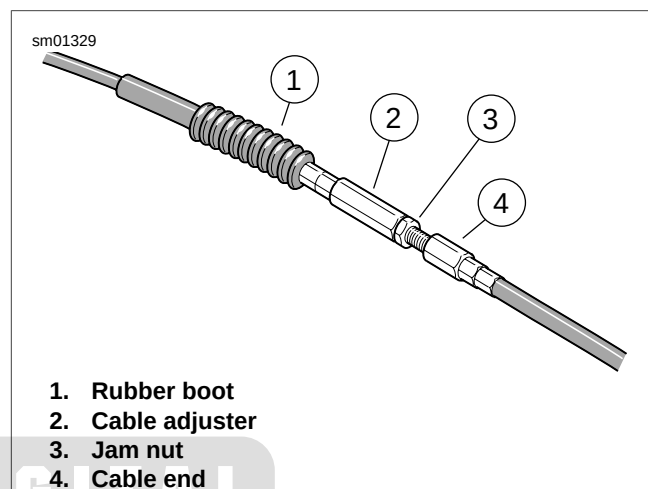
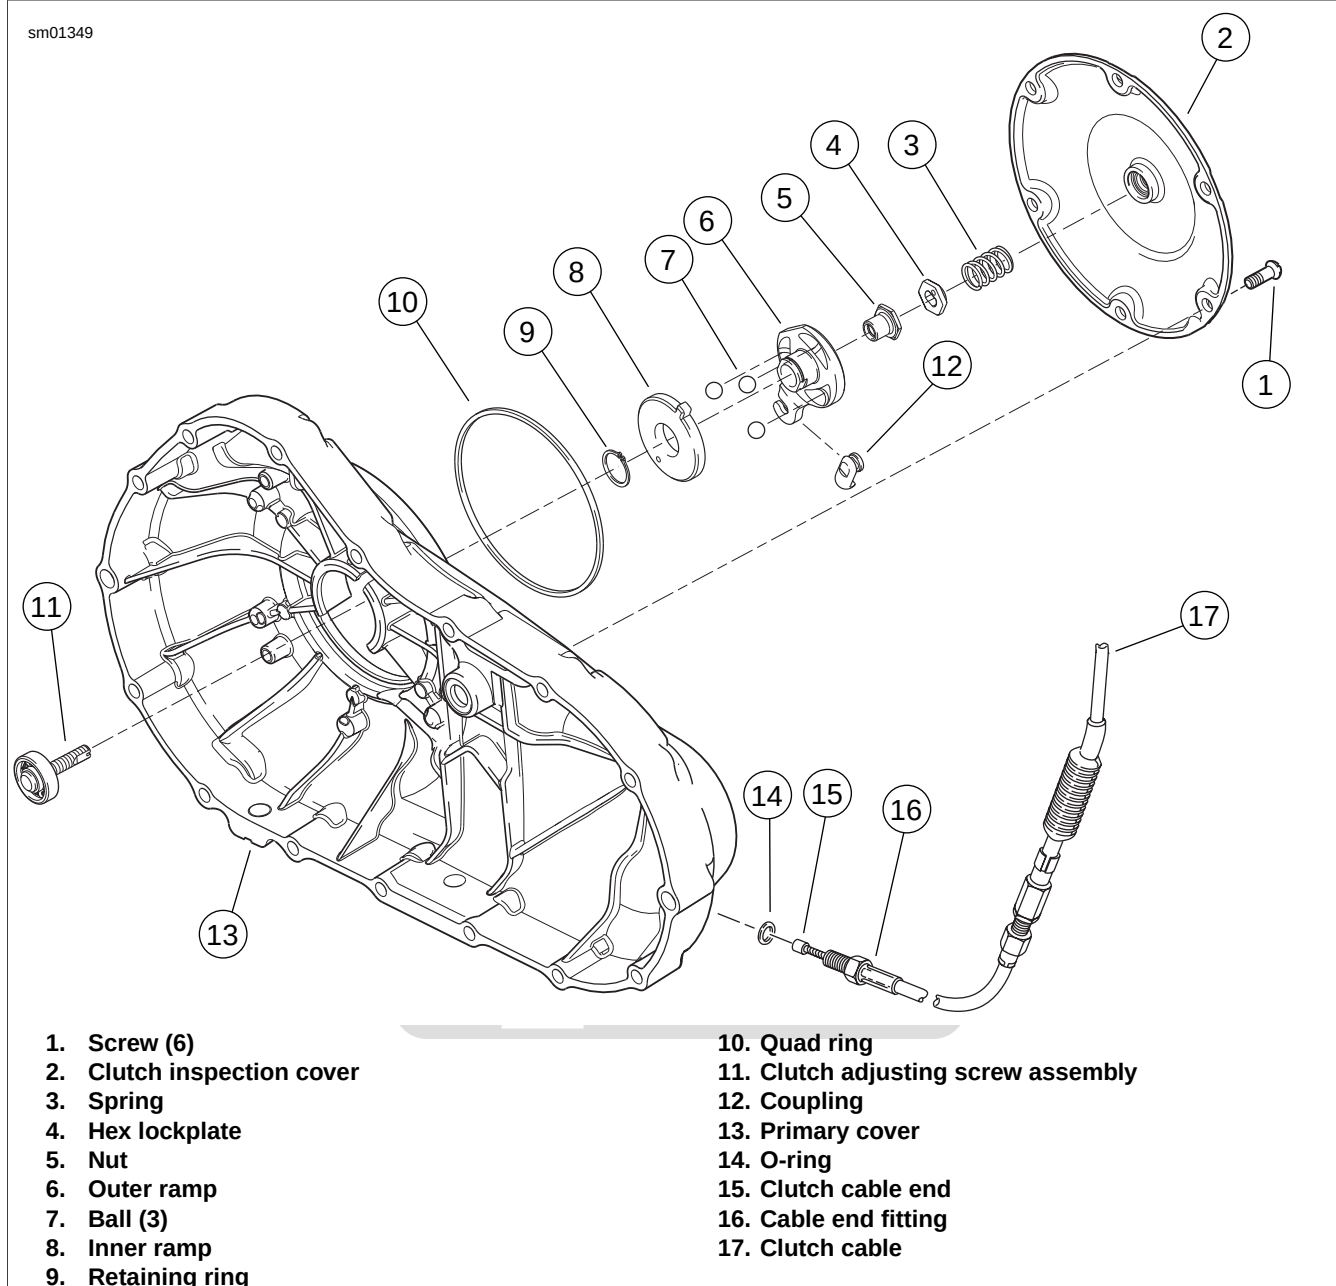

Figure 5-8. Clutch Cable Adjuster Mechanism
Figure 5-9. Clutch Release Mechanism
3. See Figure 5-8. Slide rubber boot (1) on clutch cable adjuster (2) upward to expose adjuster mechanism. Loosen jam nut (3) from adjuster. Turn adjuster to shorten cable housing until there is a large amount of freeplay at clutch hand lever. See 1.13 CLUTCH.
4. See Figure 5-9. Remove six screws (1) and clutch inspection cover (2). Remove and discard quad ring (10).
5. Slide spring (3) with attached hex lockplate (4) from flats of adjusting screw assembly (11).
6. Turn adjusting screw clockwise to release ramp and coupling mechanism (6, 7, 8, 9, 12). As the adjusting screw is turned, ramp assembly moves forward. Remove nut (5) from end of adjusting screw.
7. Remove hook of ramp from cable end coupling (12). Remove clutch cable end (15) from slot in coupling.
8. Remove and discard retaining ring (9) from ramp assembly to separate inner ramp (8) and outer ramp (6). Remove balls (7) from ramp sockets.
1. See Figure 5-9. Thoroughly clean all parts in cleaning solvent and dry with a clean, lint-free cloth.
2. Inspect three balls (7) of release ramp and coupling mechanism (6, 7, 8, 9, 12) and ball socket surfaces of inner ramp (8) and outer ramp (6) for wear, pitting, surface breakdown and other damage. Replace parts as necessary.
4. Check clutch cable assembly (17) for frayed or worn ends. Replace cable if damaged or worn. See 2.31 CLUTCH CONTROL.
1. See Figure 5-9. Assemble inner and outer ramps.
- a. Apply a light coat of multi-purpose grease to balls (7) and ramps (6, 8).
- b. Insert balls in sockets of outer ramp (6).
- c. Install inner ramp (8) on hub of outer ramp with tang on inner ramp 180° from hook of outer ramp.
- d. Install **new** retaining ring (9) in groove of outer ramp hub.
- a. Fit coupling (12) over cable end (15) with the rounded side inboard, the ramp connector button outboard.
- a. Thread nut (5) on adjusting screw assembly (11) until slot of screw is accessible with a screwdriver.
4. Slide spring (3) with hex lockplate (4) onto flats of adjusting screw. If necessary, turn adjusting screw clockwise slightly so that lockplate slides onto flats while also fitting within recess of outer ramp.
5. Install **new** quad ring (10). Verify that quad ring is fully seated in groove of primary cover (13). Install six screws (1) to secure clutch inspection cover (2) to primary cover. Tighten screws in a crosswise pattern to 84-108 **in-lbs** (9.5-12.2 Nm).
6. See Figure 5-8. Turn cable adjuster (2) clockwise away from jam nut (3) until slack is eliminated.
8. See Figure 5-8. Hold cable adjuster (2) with 1/2 inch wrench. Using 9/16 inch wrench, tighten jam nut (3) against cable adjuster. Cover cable adjuster mechanism with rubber boot (1).